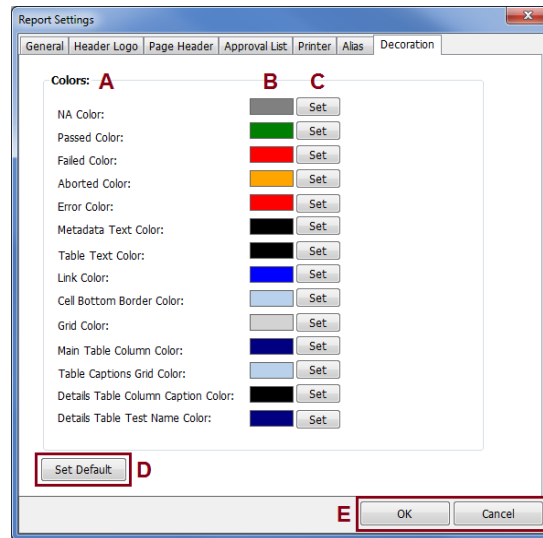

Fig 4-15 **Reports settings** window – Decoration tab
- 2.3. Click on the  button – Fig 4-15 \(D\).